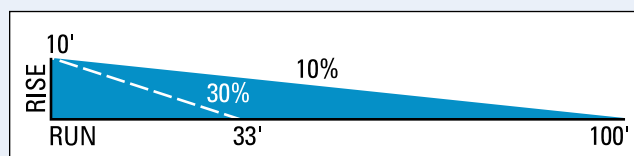

Figure 12-3: Road Grade % = Rise ÷ Run x 100
- ◆ Road grades should not exceed 10 percent. If road grades greater than 10 percent are necessary, limit grade length to minimize erosion, or break the grade using drainage structures. Graveling the road surface on steep grades can also help to maintain stability. NOTE: Optimum roads grades should be less than five percent (see Figure 12-3).